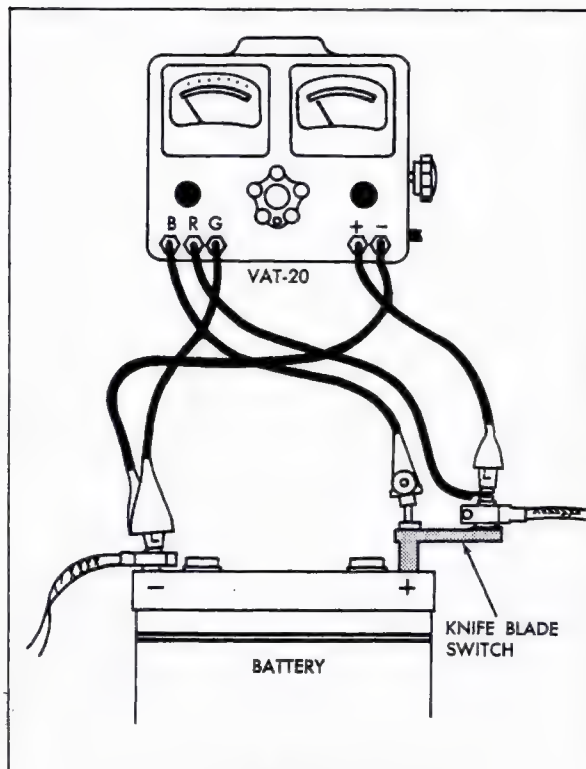

Fig. 6-23 Charging Circuit Test
### 35. Generator Output Test (Fig. 6-23)
c. Connect BAT lead of ammeter to knife blade switch terminal stud and connect REG lead to positive battery cable on the knife blade switch, Fig. 6-23.
d. Connect ammeter GRD terminal to negative battery terminal, Fig. 6-23.